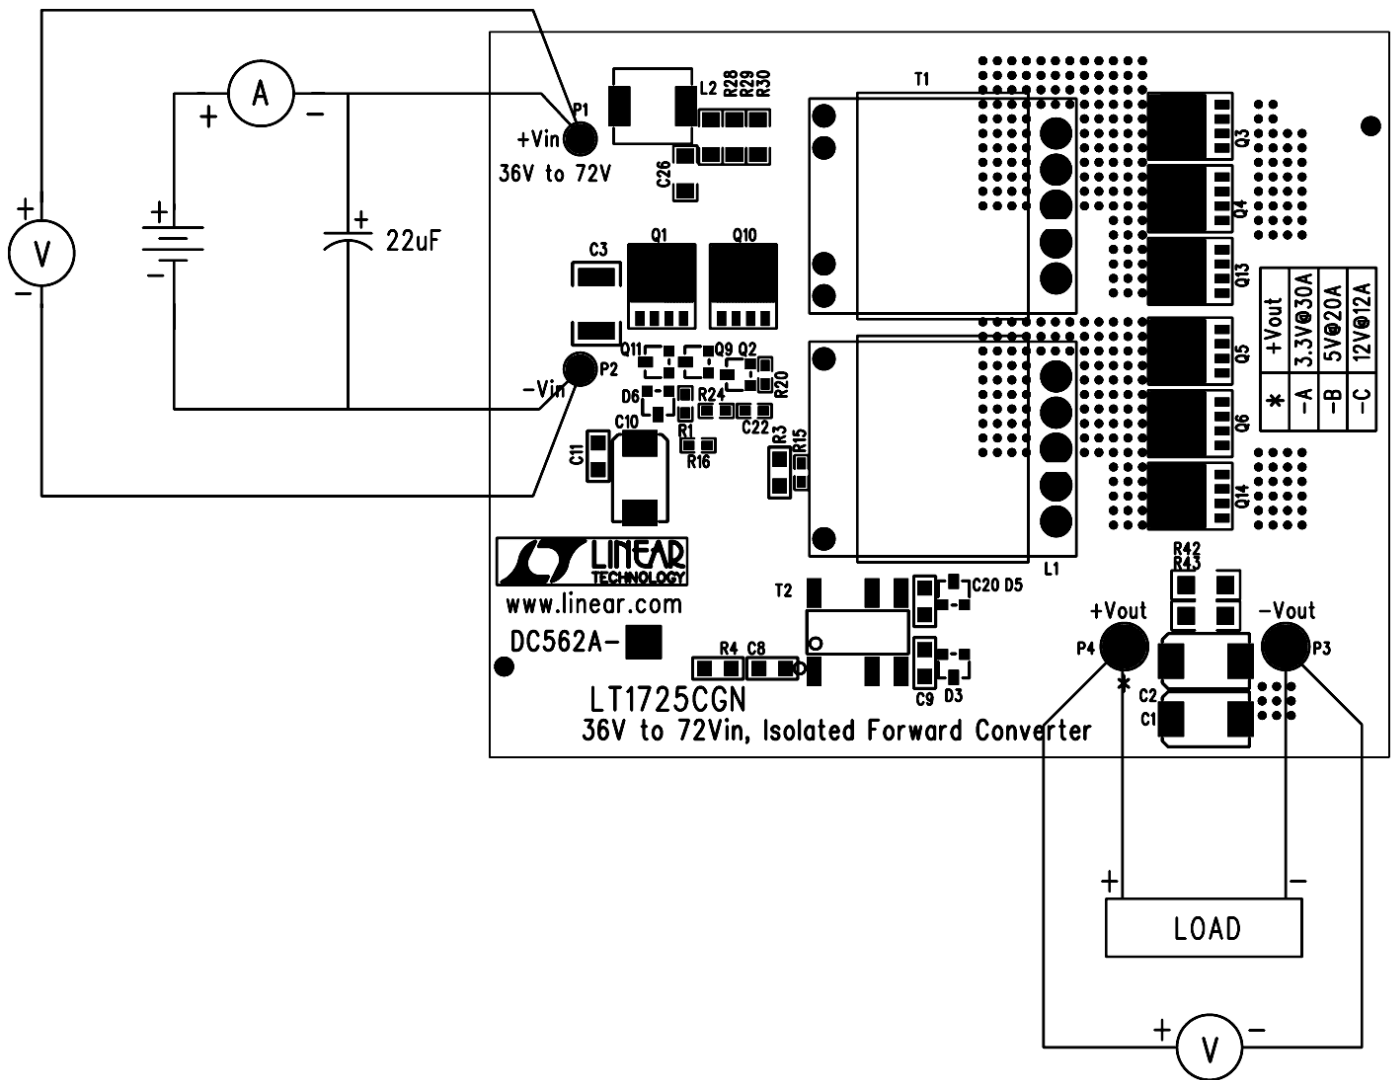

Figure 1. Proper Measurement Equipment Setup
Demonstration circuit 562A-B is easy to set up to evaluate the performance of the LT1725 and LTC1693. Refer to Figure 1 for proper measurement equipment setup and follow the procedure below:
2. Connect a 36-72V power supply, a 22 μ F 100V capacitor and meters to the Vin pins, as shown in Figure 1. Observe proper polarity.
3. Connect a 0-20A load and meters to the Vout pins, as shown in Figure 1.